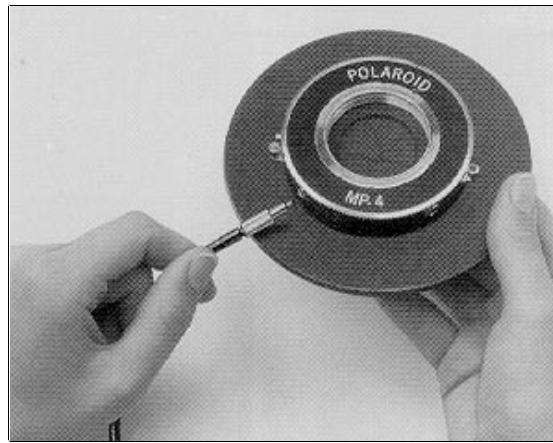

Figure 2-17. Cable Release in Shutter Socket
a. Screw the exposure cable release into its socket (k, figure 2-17).